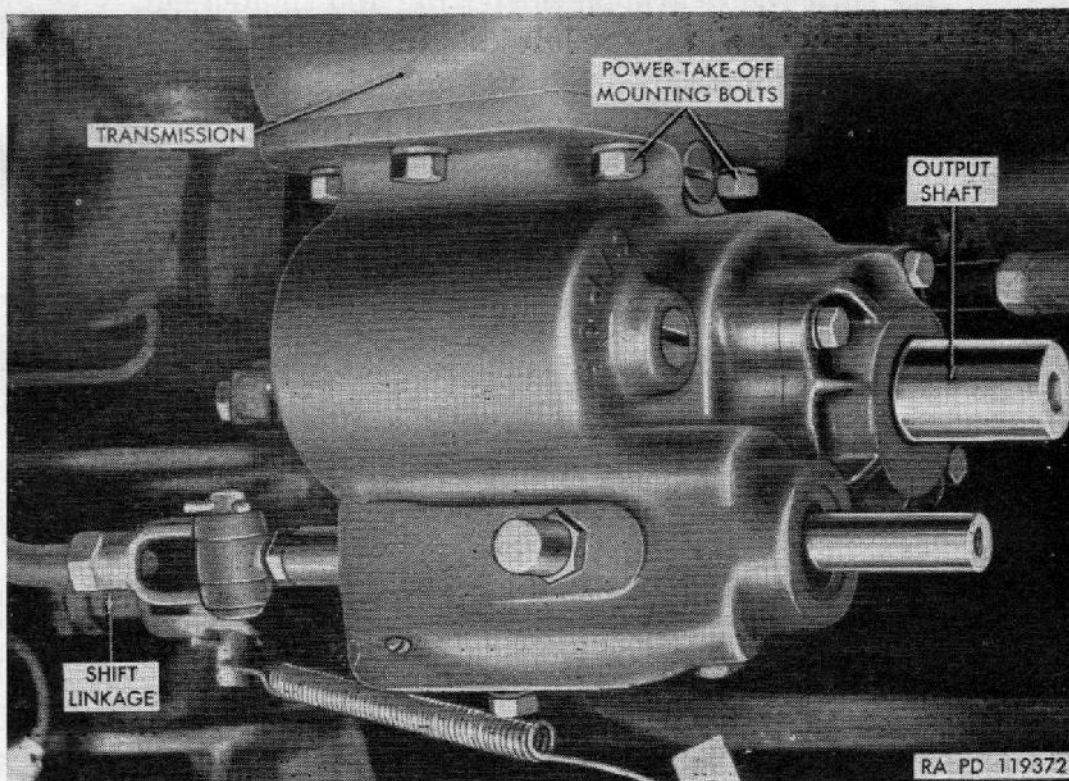

Figure 87. Power-take-off—bottom view—M34 and M36 trucks.
(a) *Models M34 and M36* (fig. 87). The power-take-off is a two speed and reverse unit mounted on left side of transmission. It is used to supply power to front mounted winch. Power-take-off shifting lever (fig. 16) extends through cab floor at left of transmission.
a. REMOVAL. The power-take-off assembly is accessible from under truck and can be removed while power plant is installed. Two types of power-take-offs are used, the single output shaft type for winch drive as used on M34 and M36 trucks (fig. 87), and the double output